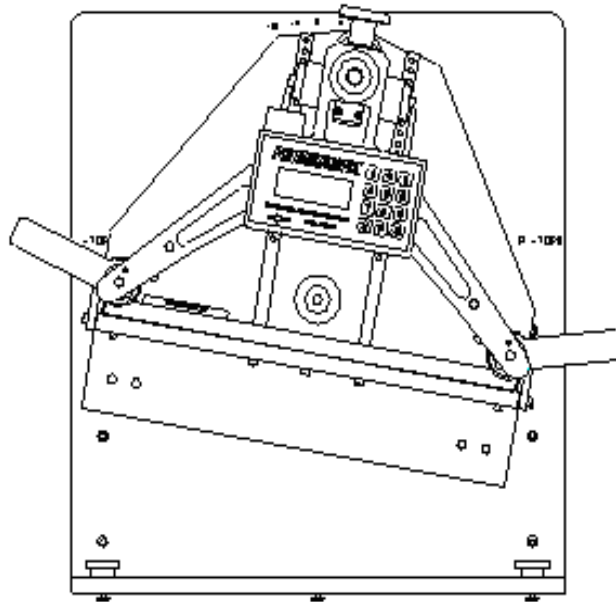

Fig. 4
- 7) The next calibration screen will have you set the calibration stand to +10°. (Fig. 4)